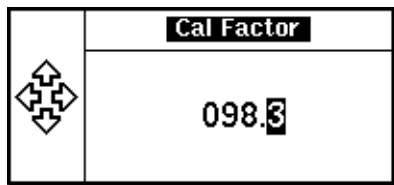

Figure 90 Calibration Factor Pop Up Window
- 10 If required, change this setting by pressing the channel **Cal Fac %**. The calibration factor pop up window is displayed as shown in Figure 90.